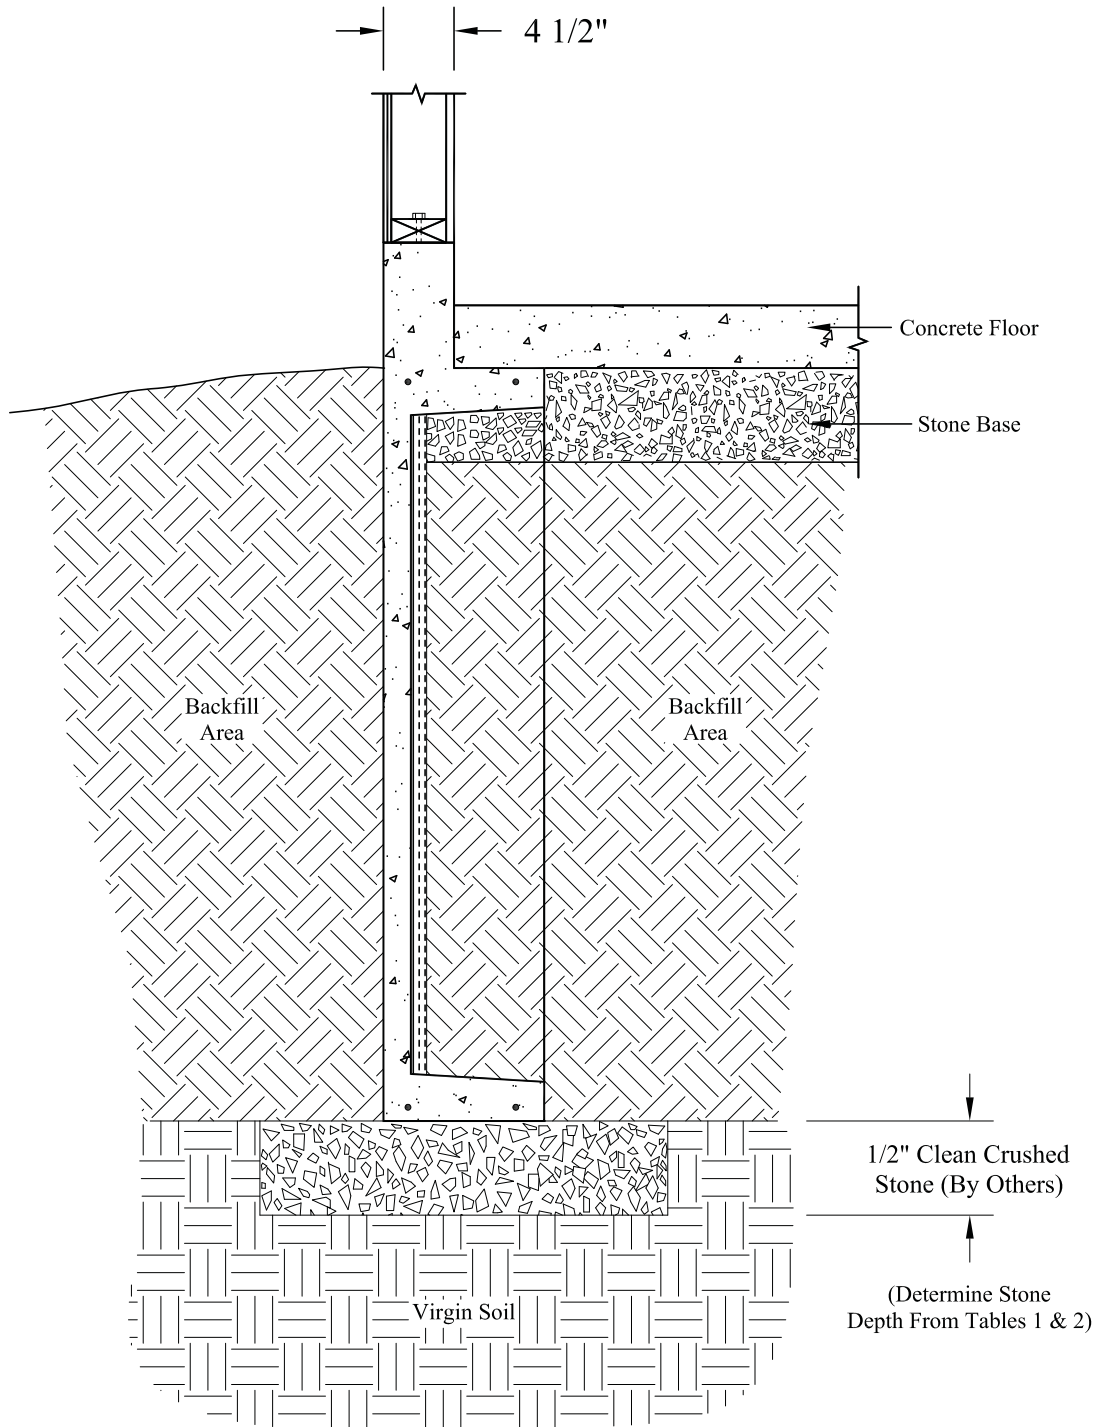

Figure 16
- Use 1/2" x 3" bolts (with inserts provided in the Superior Wall) to attach sill plate to top of wall above window / door headers and garage walls shown in Figure 16 on page 23.